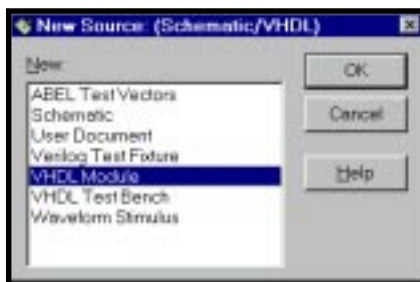

Figure 3-21. New Source Dialog Box
1. Choose **Source** ⇒ **New** from the menu bar. The New Source dialog box appears (Figure 3-21). The project type Schematic/VHDL is shown in the title bar of the dialog box letting you double check your project type before creating the source files.